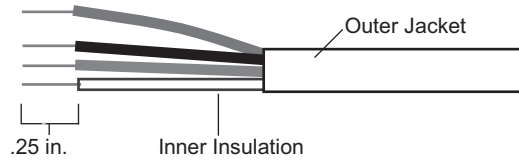

Fig. 14 – Rnet Cable Wire
2. Strip about 1/4 in. of the inner insulation from each wire (see Fig. 14).